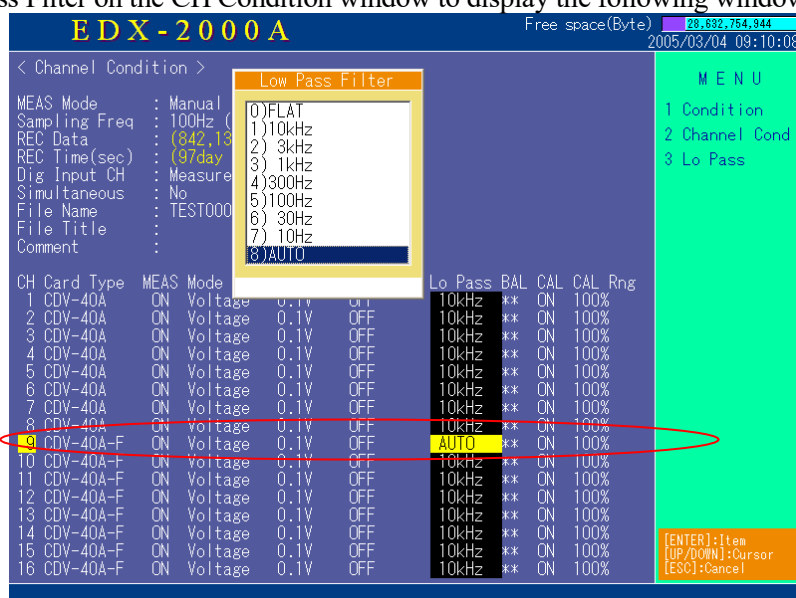

Figure 5. Set Low Pass Filter Window
- 4) Select 5) Low Pass Filter on the CH Condition window to display the following window in Figure 5.
In the above Figure 5, Low Pass Filter of the 9th CH is changed from 10 kHz to AUTO. By setting the Low Pass Filter to AUTO, the anti-aliasing filter is set to ON.